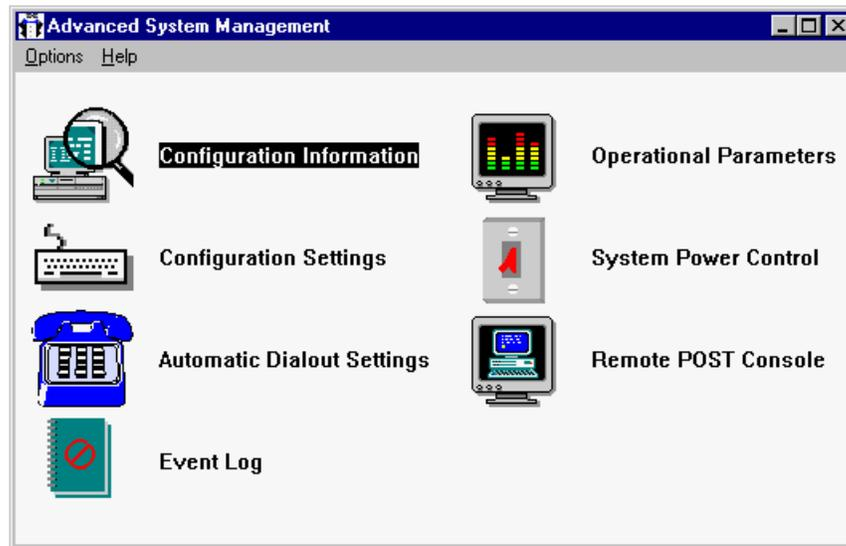

Figure 122. Service Processor Manager Window
2. Double click on **Service Processor**. The Service Processor Manager window Figure 122 on page 165 appears.